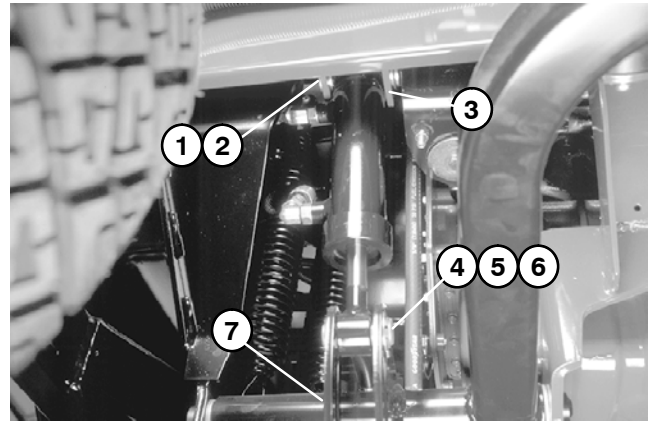

Figure 104
5. Remove rear lift cylinder (Fig. 104).
1. Install rear lift cylinder (Fig. 104).